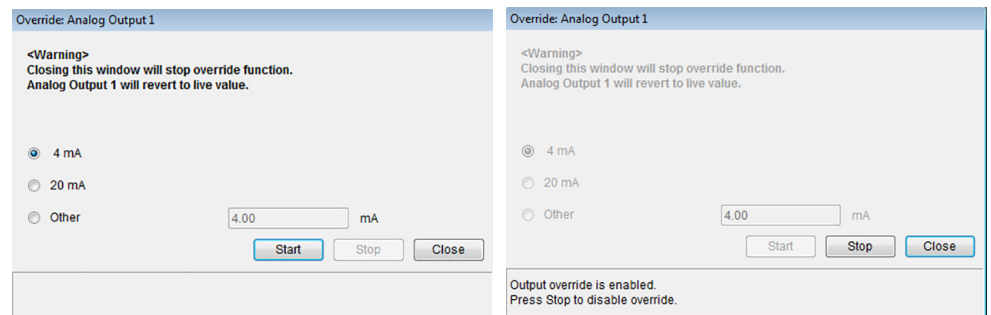

Figure 4.5—Override: Analog Output before simulation (left) and during simulation (right)
- Click **Diagnostic/Service>Loop Test>Override: Analog Output #**. The *Override: Analog Output # dialog* (Figure 4.5, left) will appear.
- Select a simulated output value. To enter a custom value, click “Other,” enter an analog value, and click **Start** (Figure 4.5, right).